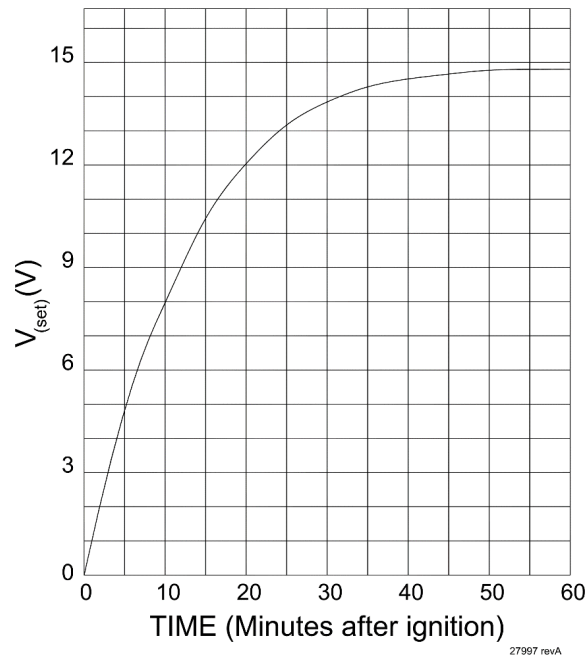

Figure 21 – V_{set} vs Time After Ignition, Example
3. Connect a voltmeter between terminals 2 (+) and 4 (-). This is the measured V_{set} and should tend towards the required V_{set} (determined in step 1). It will climb as shown in Figure 21.